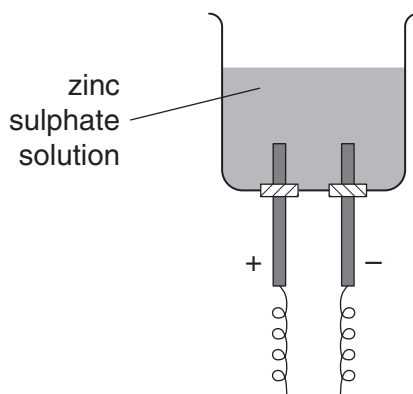

Fig. 3.2
- (f) Stage 4 is the electrolysis of the zinc sulphate solution using a lead anode (+) and an aluminium cathode (-). The students used the apparatus below, Fig. 3.2.